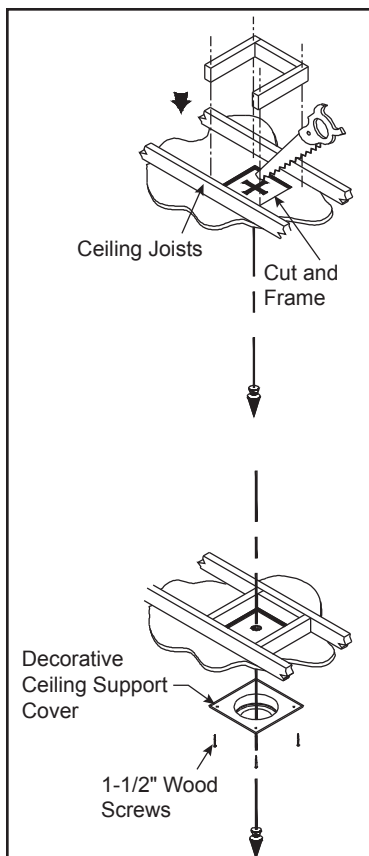

Figure 32
**Step 3** - To install the round ceiling support/wall thimble cover in a flat ceiling, cut a 10" x 10" (254 x 254 mm) square hole in the ceiling (unless otherwise specified) centered on the hole drilled in Step 2. Frame the hole as shown in Figure 32.